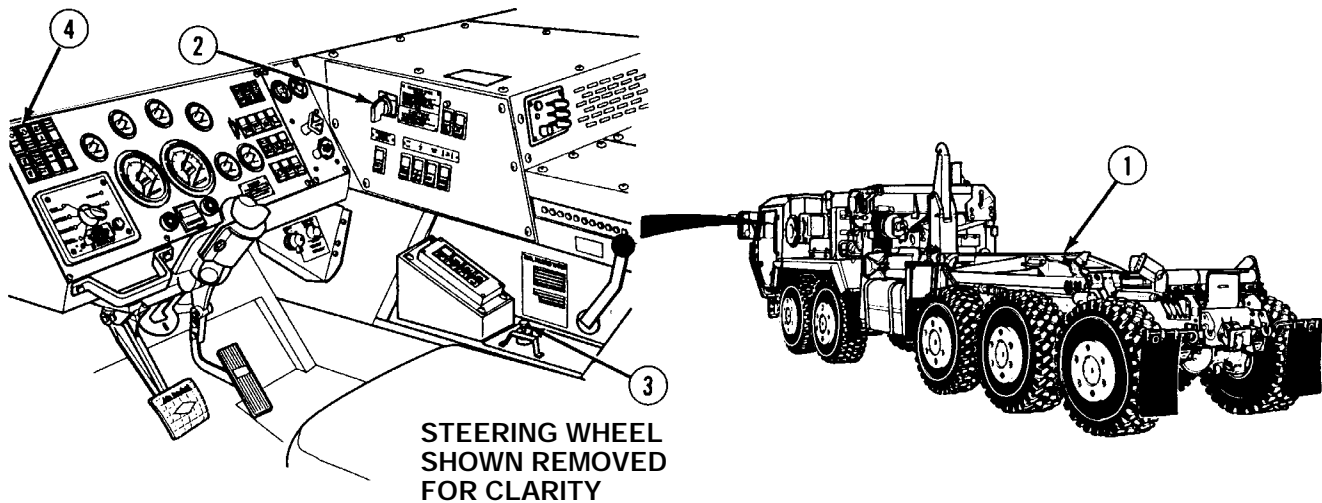

Figure 1-25. Load Handling System (LHS)
The truck is equipped with a Load Handling System (LHS) (Figure 1-25). The LHS (1) is fully hydraulic, powered by the truck hydraulic system and is operated by hydraulic selector switch (2) and joystick (3) located to the driver's right in the truck cab. The LHS control system is electrically powered from the truck electrical system. The LHS is capable of the following, with a flatrack (FR) loaded with 33,000 lb. (15 metric tons) nominal payload:
b. LHS Overload. The LHS will not function when the payload exceeds 36,300 lbs. (16,480 kg) maximum. A warning light (4), located in the cab in plain view of the driver, activates when a FR with a payload between 34,500 and 35,500 lbs. (15,663 to 16,117 kg) is being loaded by the LHS while under the worst conditions.